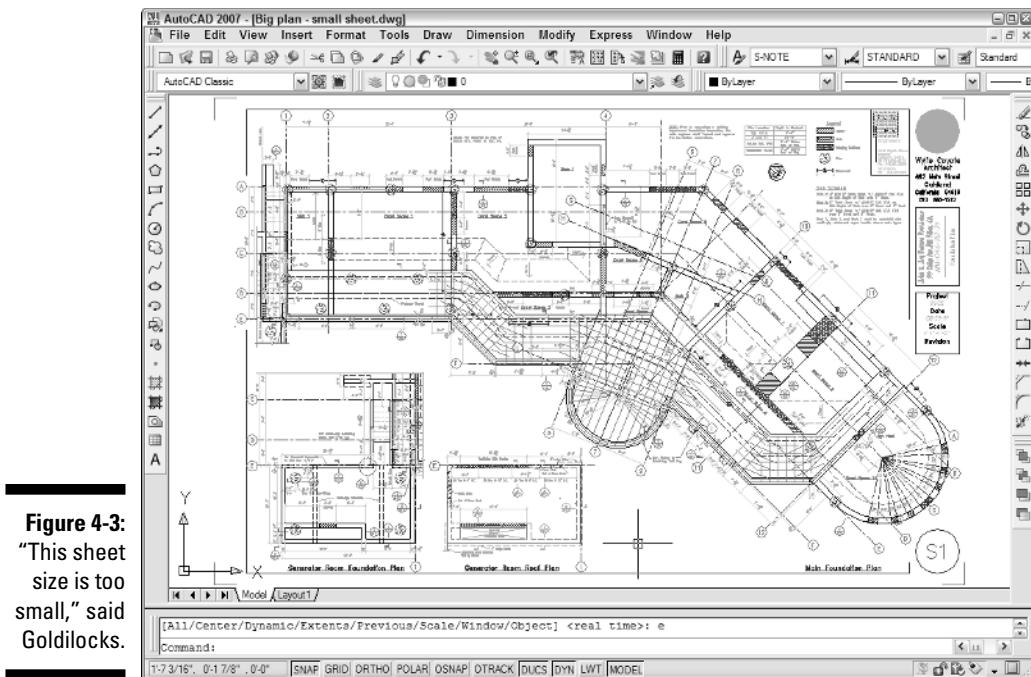

Figure 4-3:
- ✓ Most drawings require some annotations — text, grid bubbles, and so on — outside the objects you're drawing, plus a title block surrounding the objects and annotations. If you don't leave some room for the annotations and title block, you'll end up having to cram things together too much or change to a different sheet size. Either way, you'll be slowed down later in the project when you can least afford it. Figure 4-3 shows an extreme example of selecting a sheet size that's too small or, conversely, a drawing scale that's too large. In this example, the building is too long for the sheet, and it overlaps the title block on both the right and left sides.